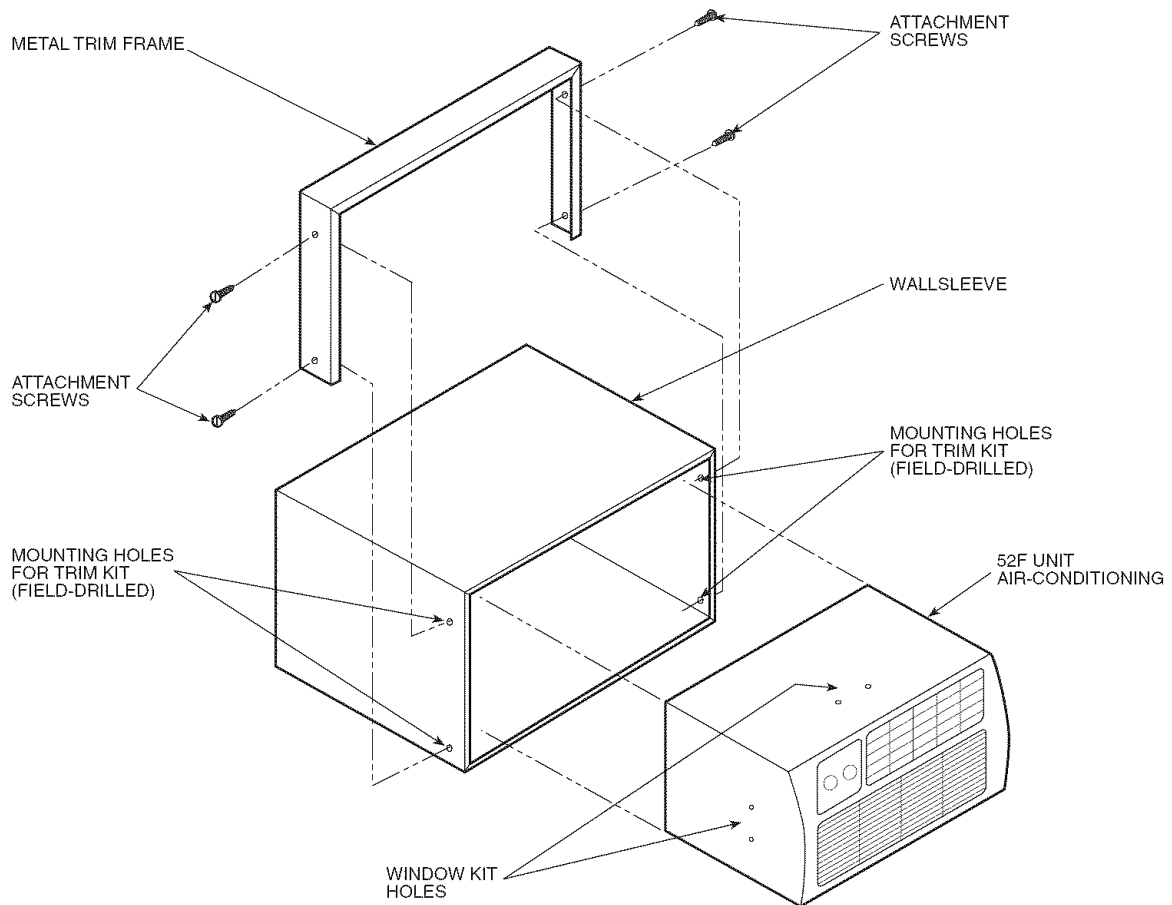

Fig. 1 — Accessory Trim Kit Installation
NOTE: Position trim kit to cover window kit mounting holes on unit. See Fig. 1.
4. Mark and drill four mounting holes into wall sleeve using a $\frac{9}{64}$ drill bit, as shown in Fig. 1.